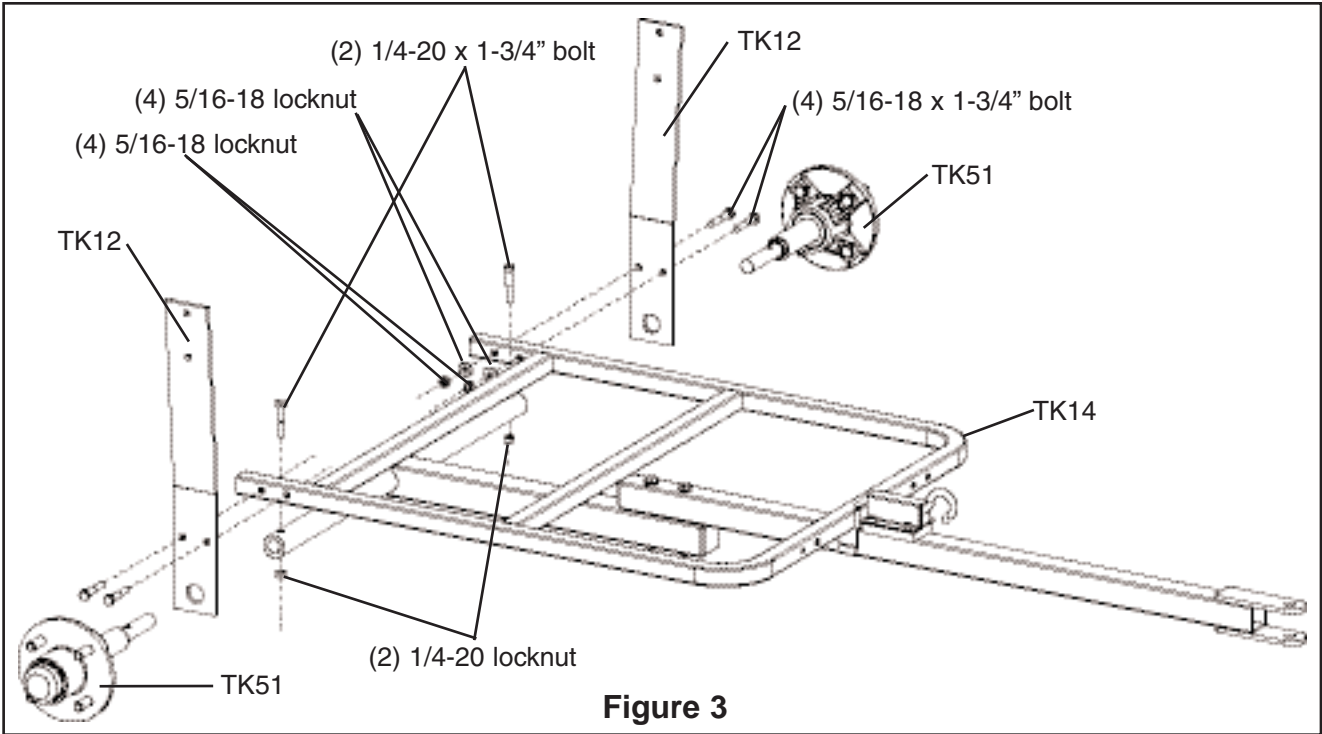

Figure 3
3. To assemble the axle assemblies and the side tabs, first slide the extra large side tab (TK12) over the small end of the hub and axle assembly (TK51) with the tab angled outward toward the hub. Then insert the small end of the hub and axle assembly into the axle tube. Thread axle into axle tube until tight. Turn back until holes in axle and tube are aligned. Insert a 1/4-20 x 1-3/4" bolt. Fasten using a 1/4-20 locknut. Repeat this for the other side of the trailer frame. Attach the side tabs to the frame (TK14) using (4) 5/16-18 x 1-3/4" bolts, (4) 5/16" washers and (4) 5/16-18 biway locknuts. See Figures 3 and 4.